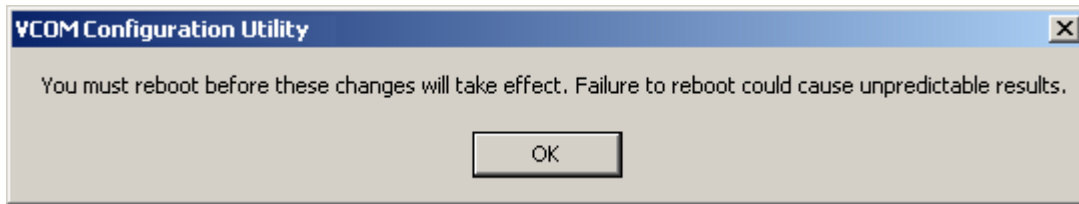

Figure 40. Reboot Message
- Click the **Save** button. If you changed VCOM settings, the message in Figure 40 appears.